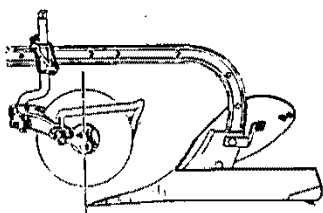

Fig. 15. Set the hub of the coulters over the point of the plowshare.
- a. The hub of the coulter should be set about over the point of the plow (fig. 15). In hard soil raising